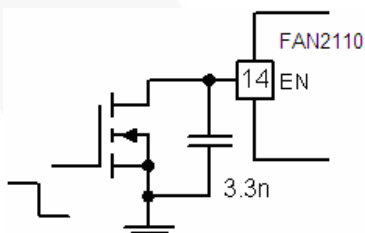

Figure 30. Enabling with External Control
FAN2110 has an internal pull-up to the enable (EN) pin so that the IC is enabled once V_{CC} exceeds the UVLO threshold. Connecting a small capacitor across EN and AGND delays the rate of voltage rise on the EN pin. The EN pin also serves for the restart whenever a fault occurs (refer to the Auto-Restart section). If the regulator is enabled externally, the external EN signal should go HIGH only after V_{CC} is established. For applications where such sequencing is required, FAN2110 can be enabled (after the V_{CC} comes up) with external control, as shown in Figure 30.